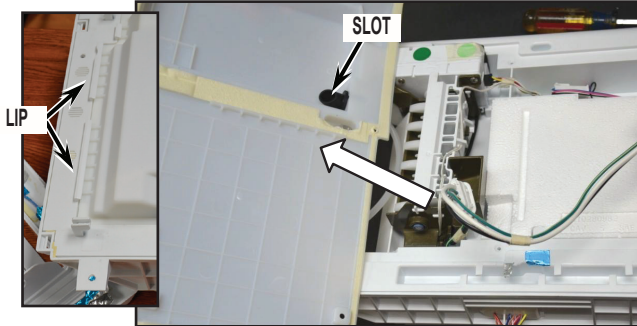

FIGURE 34
8. Remove ice box cover while guiding ice maker harness through slot in ice box cover. Note lip for reassembly. See *Figure 34*.